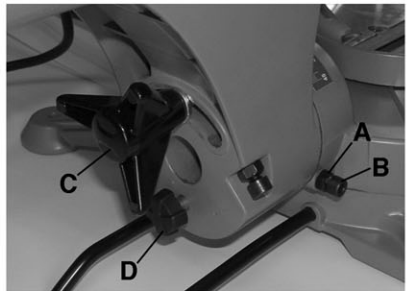

Figure 13
11. Loosen the two hex. nuts (A) Fig.13 on both sides of the bevel pivot which secure the two bevel adjustment cap screws (B), loosen the bevel lock knob (C) and pull the positive stop adjustment knob (D) outwards.
5. Loosen the bevel lock knob (C) Fig.13 and move the saw arm to the left to the desired bevel angle (between 0° and 45°). Tighten the bevel lock knob.